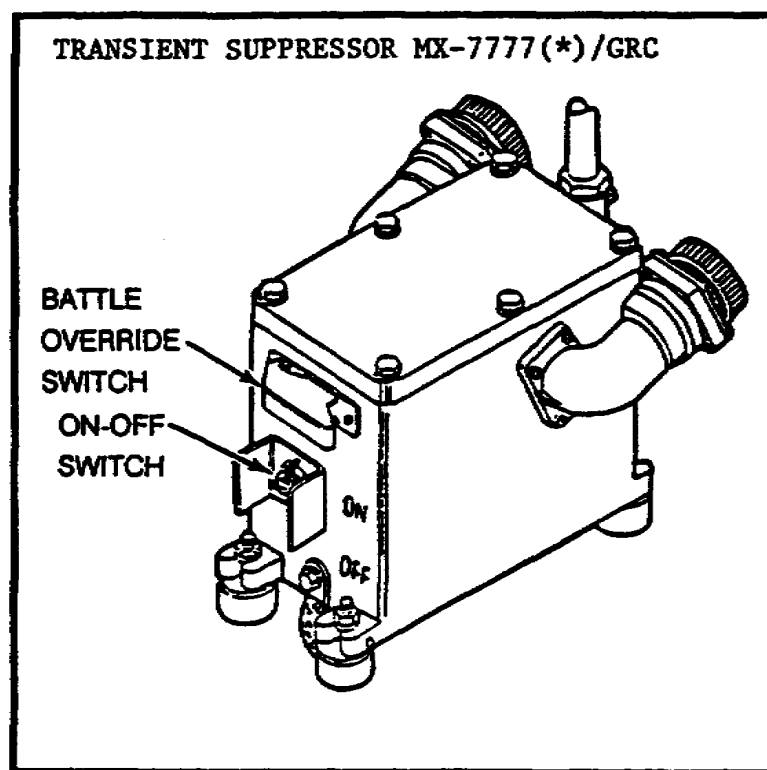

Figure 22. EPC step 1b and MX-7777 circuit breaker set to ON.
(2) See Figure 22. EPC step 1b checks the MX-7777 circuit breaker function.